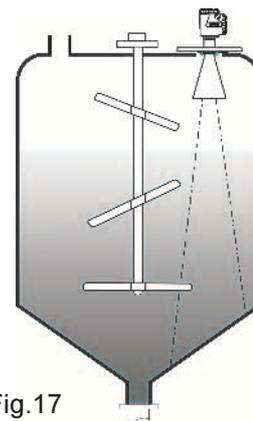

Fig.17
- In case of tanks equipped with agitators (fig.17), it is necessary to map and memorize the false echo signals created by agitator blades. This procedure allows **RPL** transmitter to recognize a false echo and to transmit the correct signal.